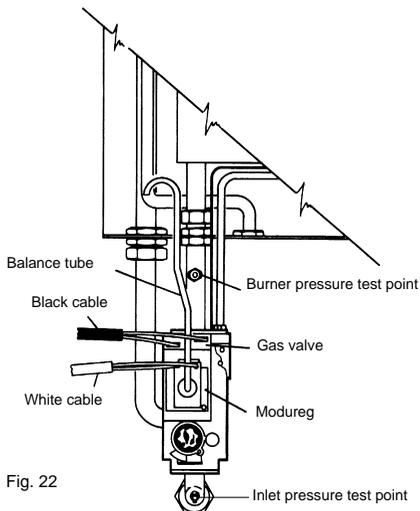

Fig. 22
- Loosen the screw in the burner pressure test point (fig. 22) and attach a gauge.
- e. Disconnect one of the wires from the «Modureg» (fig. 22), this will reduce the burner to minimum which should read 3.0 mbar  $\pm$  0.5 mbar. If the burner pressure is not as stated check the inlet working pressure (fig. 22) which should be minimum 20 mbar. If that is correct, consult Ferrolti. No attempt should be made to alter D.H.W. burner pressure.